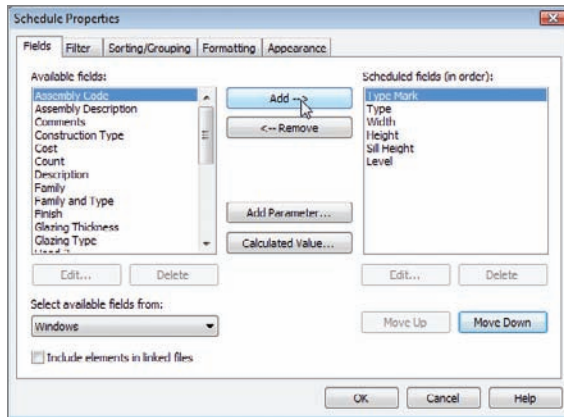

FIGURE 11.22 Adding fields to the schedule
3. In the Schedule Properties dialog, add the following fields (see Figure 11.22):